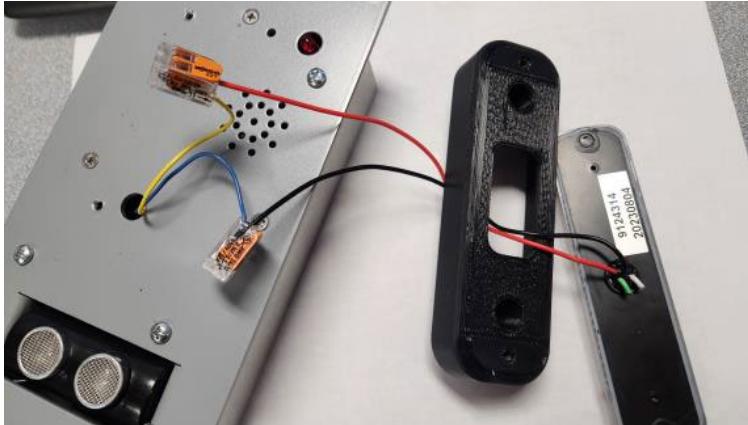

Figure 8: All wires properly connected using 2 wire splice connectors
9. Raise both levers on 2 wire splice connectors, then insert red wire into one connector slot and yellow wire into other slot. Push both levers down to fasten wires. Repeat the previous step for black and blue wires. Figures 8 and 9.